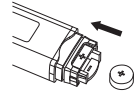

Figure 5
4. Use pointed object such as a pen to remove old battery. Discard battery lawfully. Replace with new 1.5V DC button type LR41 or SR41,UCC392, or equivalent. Be sure battery is installed with “+” polarity facing up. (See Figure 5)